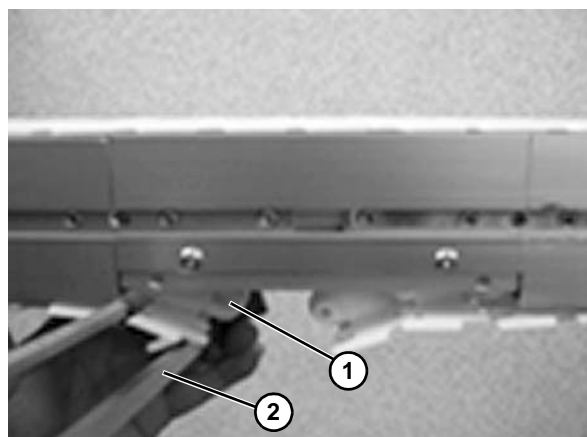

Figure 60
3. Clamp the chain (**Figure 60, item 1**) to the beam profile. Use the FlexMove chain tool (**Figure 60, item 2**) to remove a steel pin from the chain, so that two links are separated.